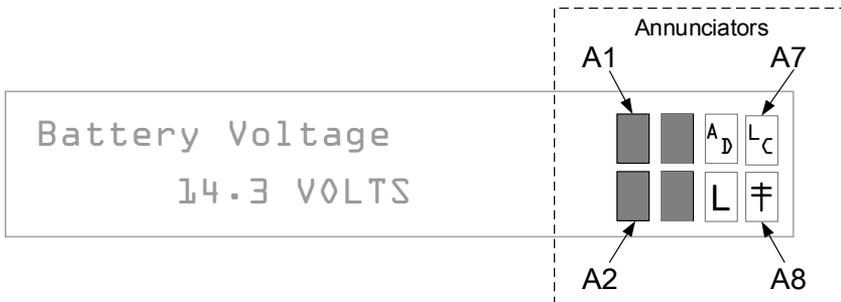

Figure 24: μ FLO^{G5} annunciators
Alarm and status codes are displayed in the annunciator area of the LCD (Figure 24). When an alarm condition is triggered in the flow computer, the alarm condition is indicated on the LCD and the condition is recorded in the log period flow record. Status codes are also displayed in the annunciator area, and indicate the operating status of the defined item, but are not recorded in the log period flow record.
The status and alarm code area is customizable. Each of the 8 annunciator display fields, shown in Figure 24, may be programmed to display any of the available indicators, in any of the 8 locations.
- Verify that the † symbol flashes in the A8 display position (Figure 24, page 33). This indicates that the port is actively running Totalflow Remote Protocol and each flash identifies the Listen Cycle time period.